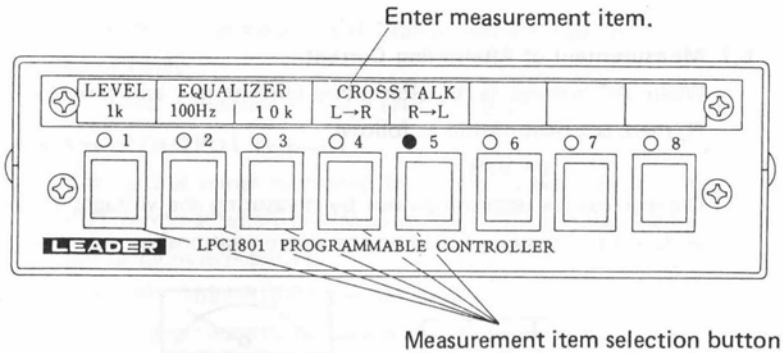

Fig. 14 Programmable controller
(4) LPC-1801 programmable controller for LMV-189AR [BR] is shown in Fig. 14.